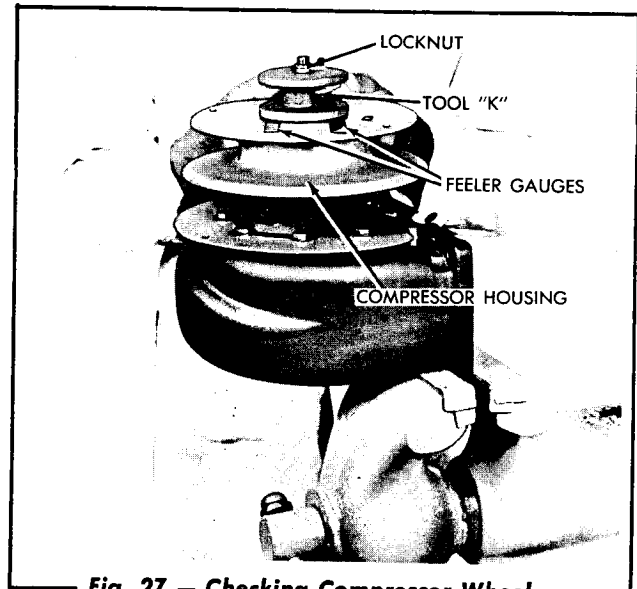

Fig. 27 — Checking Compressor Wheel Back Clearance
- b. Place tool "K" over shaft (Fig. 27).